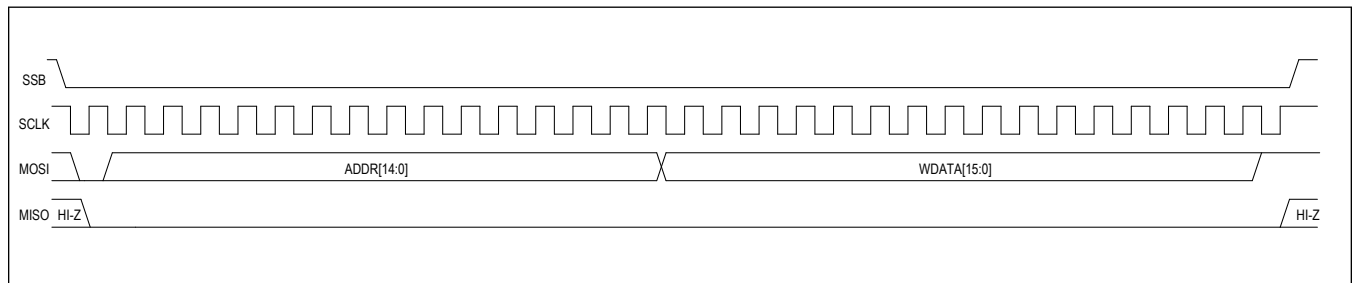

Figure 7. SPI Write Frame
As shown in Figure 7, the SPI Write Frame is 32-bits long. It involves a write bit (0), followed by a 15-bit register address, followed by 16-bits of register data.